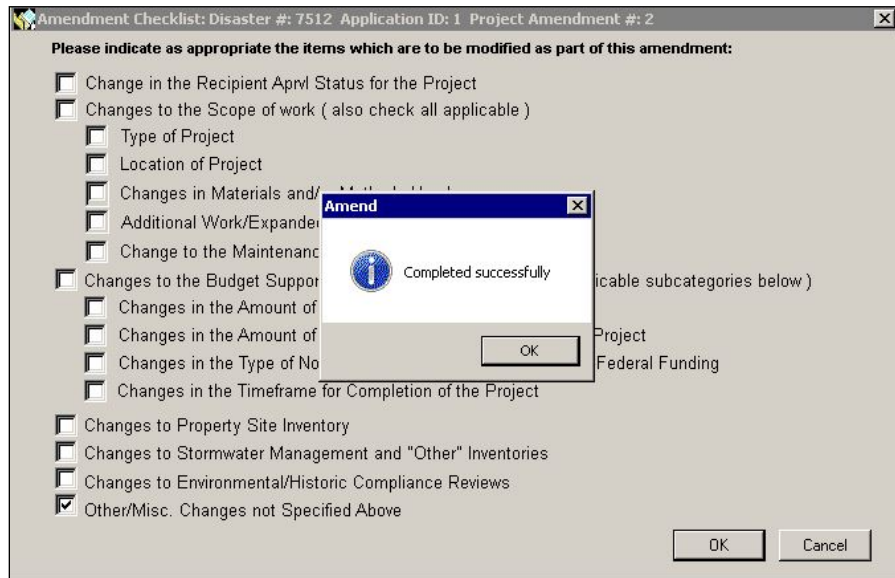

Figure 8-8: Completed Successfully Message
4. The Amend Completed Successfully message is displayed (Figure 8-8).